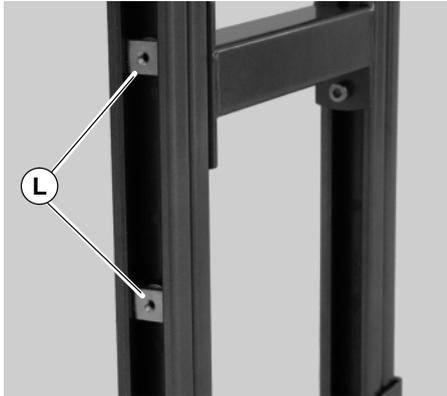

Figure 13
1. Install Spring Nuts (L of Figure 13) in steel stand leg.